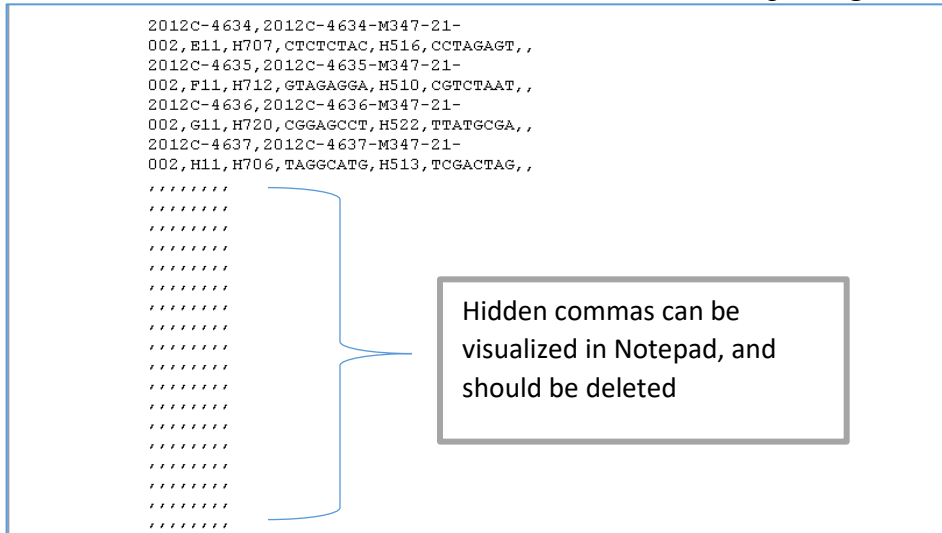

Figure 6. Sample sheet tab in Notepad, depicting extra commas to be deleted.
- 1.3. Open the CSV file in WordPad or Notepad and delete any commas listed after the final sample. See Fig. 6 below.